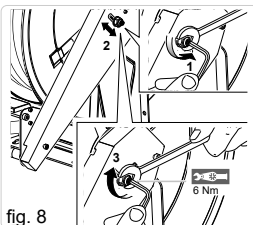

fig. 8
After securing the cover or after heavy use, it may be necessary to tighten the belt. Turn the tension pivot with a wrench 17 mm and an allen key 4 mm, as shown (fig. 8).